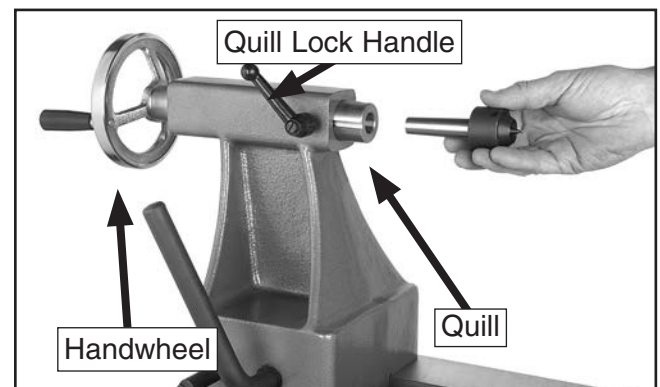

Figure 27. Installing center into tailstock quill.
1. On the tailstock, loosen the quill lock handle and rotate the handwheel until the quill extends out about 1", as shown in **Figure 27**.
3. Firmly insert the tapered end of the center into the tailstock quill, as shown in **Figure 27**.